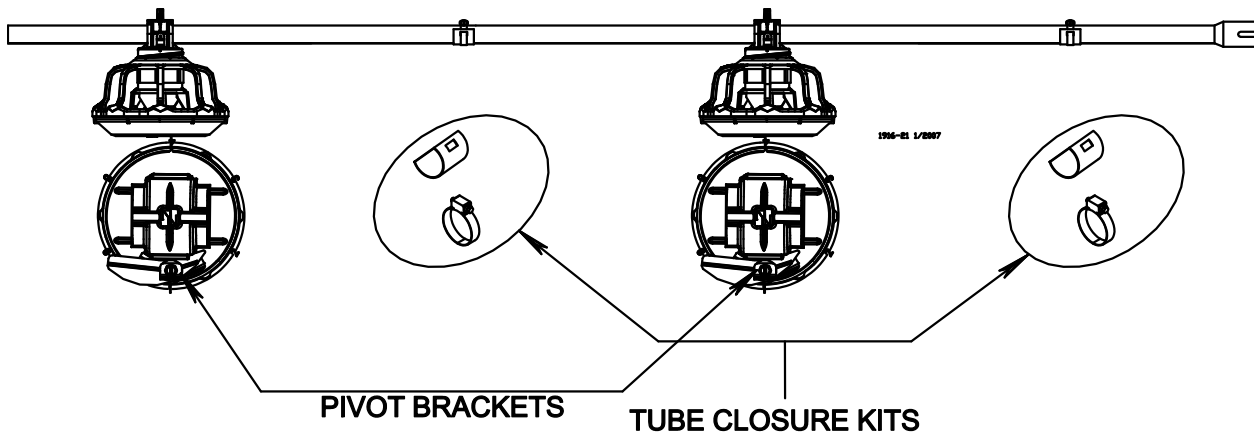

Figure 32. Assemble Feeders on tubes
3. Rotate the auger tubes so that the seam is down, this holds the Pan Assemblies in place on the tubes. See Figure 32.